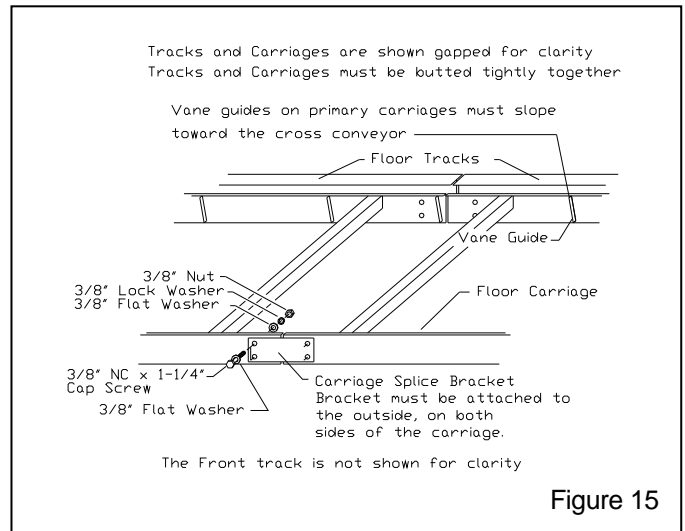
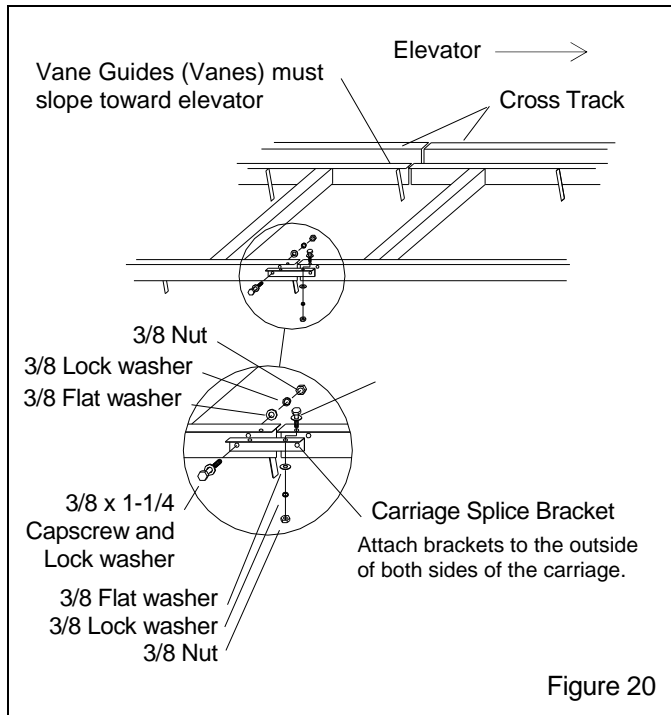

Figure 15
Figure 20
2.7.1.3 Floor carriages must be laid in the tracks with the vane guides sloping toward the cross conveyor as shown in Figure 15. Vane guides on cross conveyor tracks slope toward the elevator as shown in Figure 20.
2.7.2.4 Bolt both sides of the floor carriages together using splice brackets and 3/8" fasteners as shown in Figure 15. Splice brackets mount on the outside of the carriages.
2.7.3.8 Bolt both sides of the cross conveyor carriages together as shown in Figure 20. Splice brackets mount on the outside of the carriages.